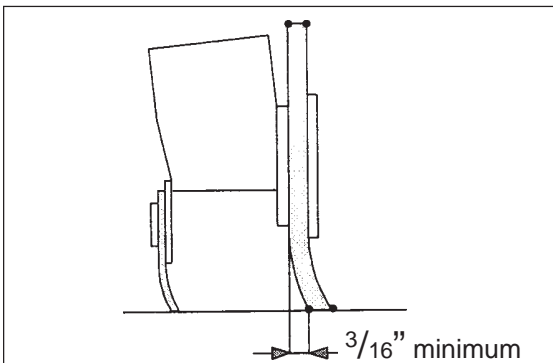

Figure 10
During operation, the rear squeegee blade should have a constant $3/16$ " minimum flare along the entire squeegee blade (see figure 10).
Pendant le fonctionnement, le balai de la raclette arrière doit avoir un évasement minimum de 3/16" le long de la totalité du balai de la raclette (voir figure 10).
1. Press and hold the green one touch button (figure 10, B) until you hear a *double beep* from the machine. **NOTE: The time required for this will be approximately 10 seconds.**